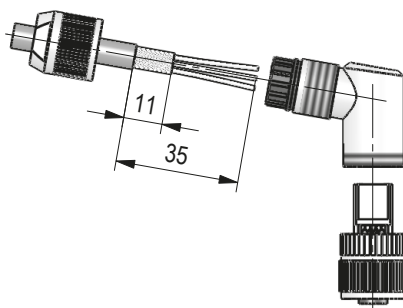

Fig. 16: Right angle mating connector M12 A coded
- Accessory SIKO art. no. "87599" M12 A coded (socket 8 pole interface digital inputs and outputs) (**Fig. 16**).
Mounting (Fig. 16)
Changing the angle position (Fig. 16)